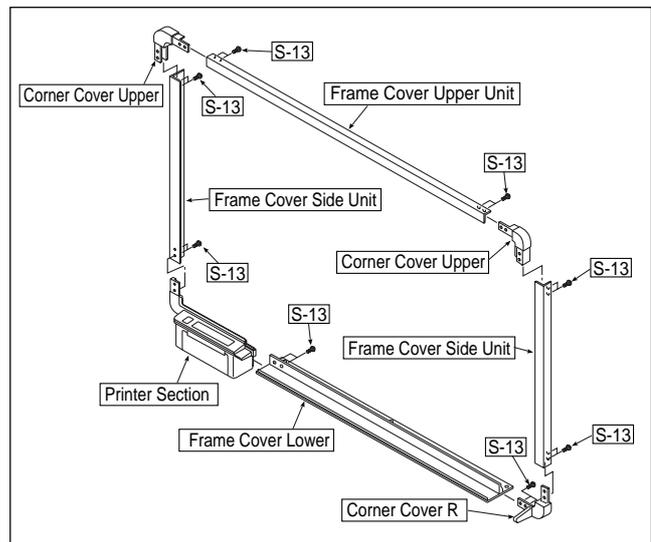

Fig. 9
8) Disassemble the Frame Cover Section. (See Figure 9.)
1. Remove the "S-13" screws as shown in Figure 9 and remove the parts. (Tightening torque :  $11\pm 1.0\text{kgfcm}$ )